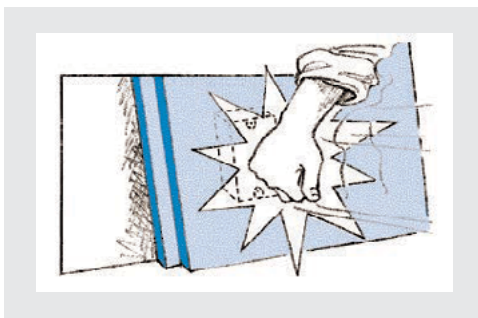

Figure 4
2. Place insulation board over woodblock and tap firmly with hand, forming an imprint of the block on the back side of the insulation board. Turn board over and cut out imprint (Figure 4).